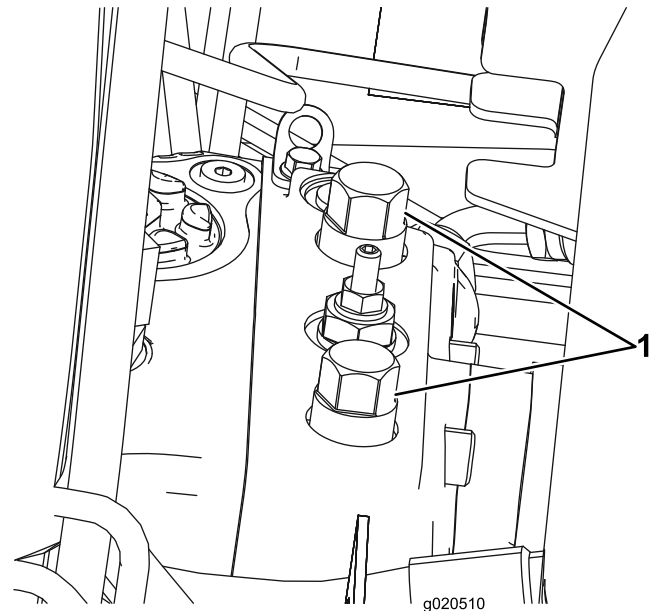

Figure 44
1. Open the hood and locate the bypass valves (Figure 44) on the top of pump, behind the battery/storage boxes.